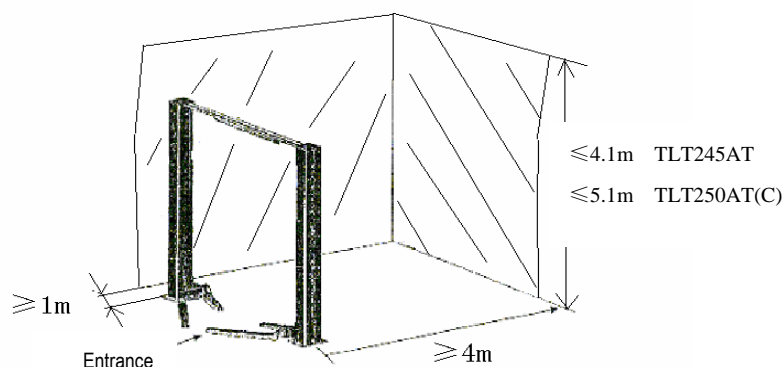

Fig 4
- The front and back of the lift should be reserved with sufficient space to accommodate all the vehicles(Fig.4).